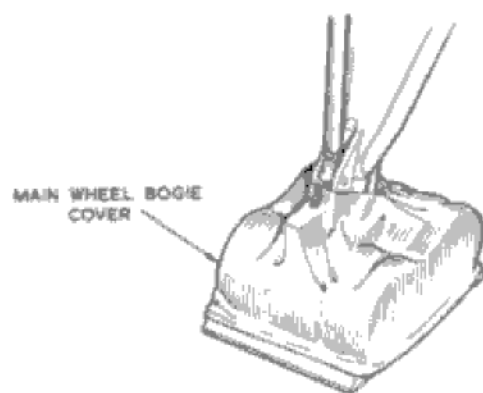

Fig.7. Arrangement of covers
19. The canopy and pressure head covers must always be fitted when the aircraft is picketed. Covers or plugs must also be fitted to the openings indicated on fig.7 as soon as possible after stopping the engines and should only be removed prior to starting.